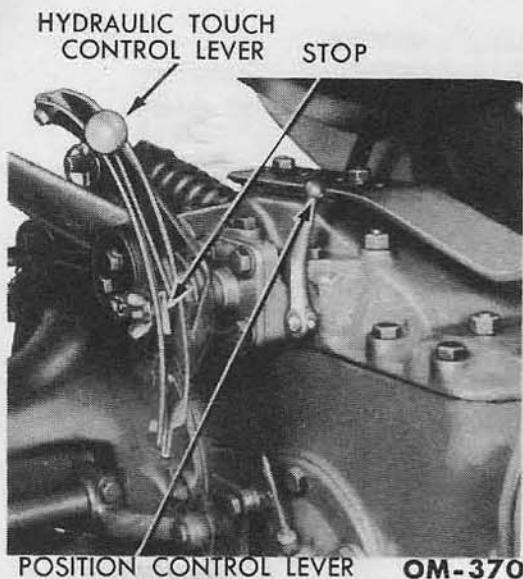

Fig. 6—Hydraulic Control Levers
The hydraulic touch control lever is the large lever located directly behind the position control lever. The hydraulic touch control lever is the master control lever of the hydraulic system, and positioning it governs both the constant implement draft and the position control (fig. 6).
f. Hydraulic Control and Leveling Crank. The operator may adjust the hydraulic controls and leveling crank (figs. 6 and 7) while the tractor is in motion to obtain the desired implement performance (sec. 121). Position the hydraulic touch control lever stop so the lever can be immediately positioned when lowering the implement. Temporary changes of the lever position may be made beyond the stop.